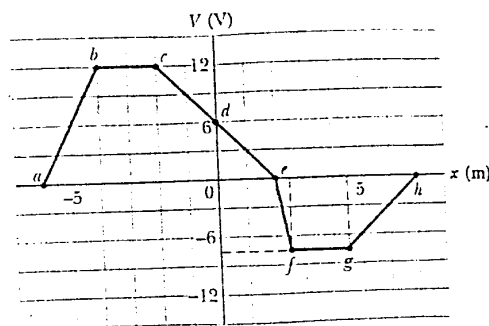

FIG. 25.4
4. In a certain situation, the electric potential varies along the  $x$ -axis as shown in the graph of Figure 25.4. For each of the intervals  $ab$ ,  $bc$ ,  $cd$ ,  $de$ ,  $ef$ ,  $fg$ , and  $gh$ , determine the  $x$  component of the electric field, and then plot  $E_x$  versus  $x$ . (Ignore behavior at the interval end points).